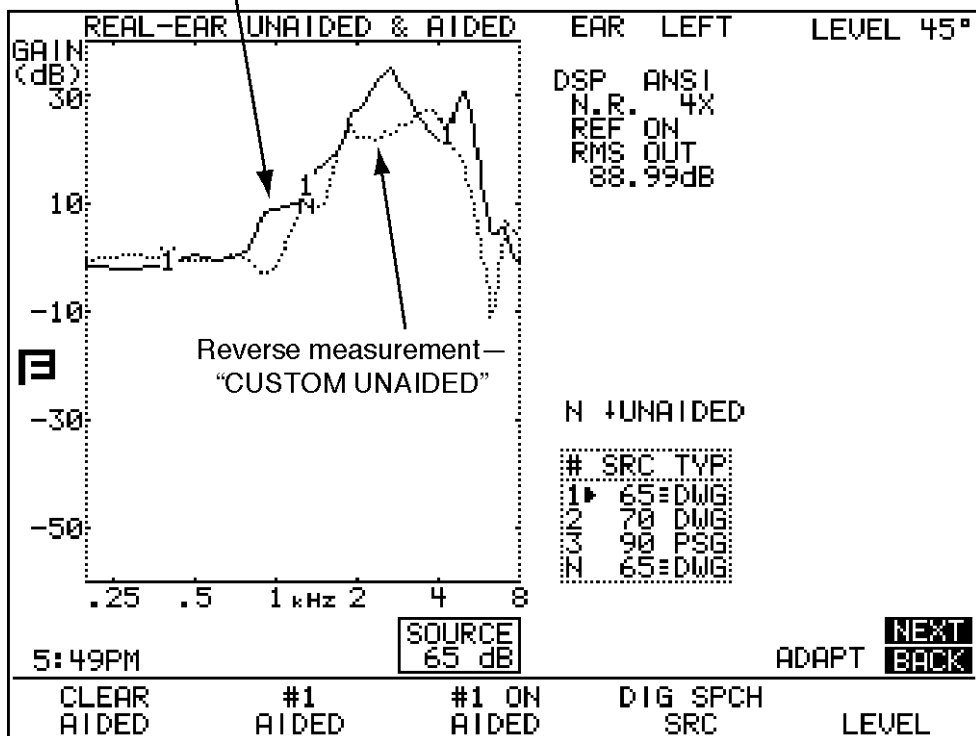

Figure 4.4.4B—"Forward" and "reverse" directional aid measurements in the real-ear unaided & unaided screen
14. Press [START/STOP] to take the measurement. If you're using a FAST, COMP or DIG SPCH signal, press [START/STOP] again to stop the signal once the measurement has stabilized. This curve is the "reverse" measurement. See Figure 4.4.4B.